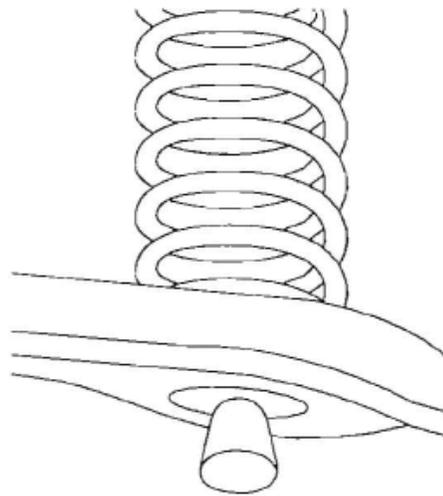

fig. 1
3. Install styrofoam protector into top spring seat as shown in Figures 1 and 2.